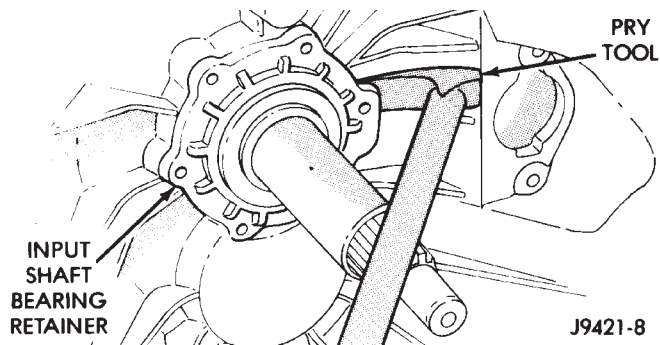

Fig. 12 Loosening Bearing Retainer Sealer Bead
(8) Remove input shaft bearing retainer. Use pry tool to carefully lift retainer and break sealer bead (Fig. 12).